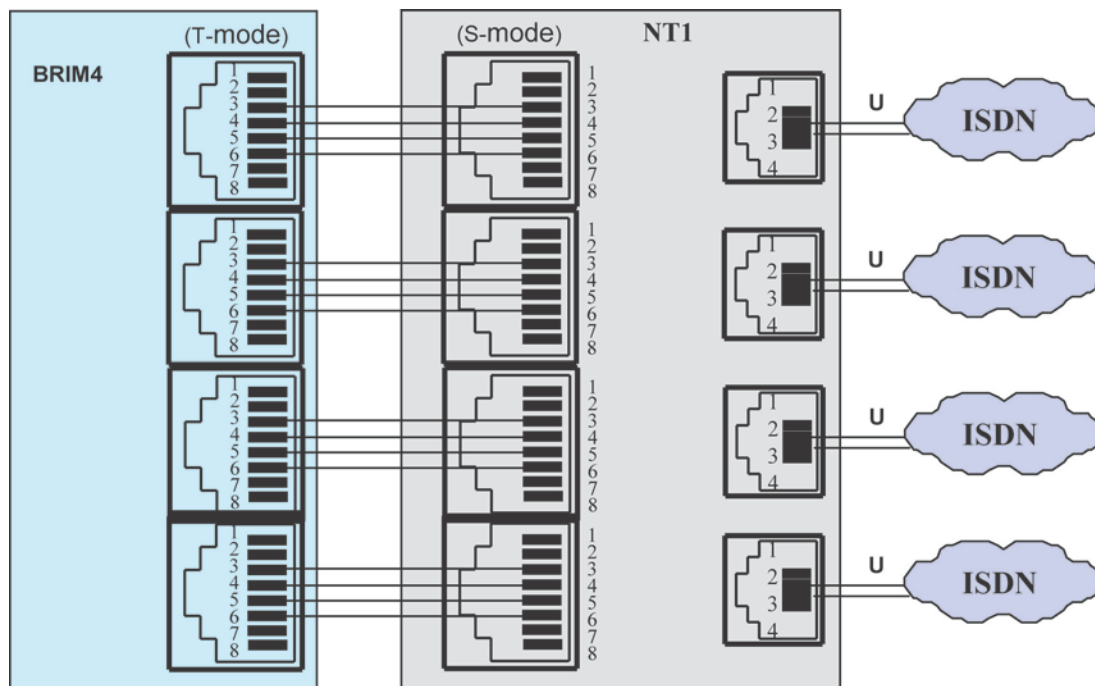

Figure 4.5.13-1 BRIM4 BRI Line Connector Configuration
On the rear are four (4) RJ-45 connectors terminated to the BRI Line interface circuits. These connectors should be wired to the telephone company termination point (“T” Mode). The connector pin assignments for the RJ-45 type jacks on the BRIM4 are shown in Figure 4.5.13-1.